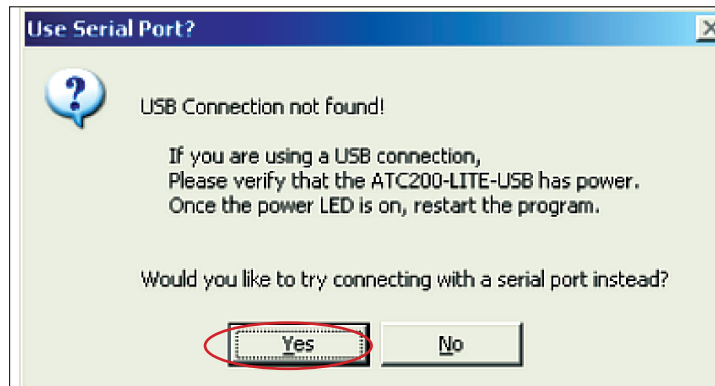

Figure 6. ATC200-LITE-USB Serial Connection.
- Start the ATCLite program. Since a USB connection is not detected, the computer will prompt you to use a serial connection. Click **Yes** to allow the computer to search for an available serial port. See Figure 6. COM1 is the default used, if it is available. If COM1 is not available, the computer will automatically search for the next available serial port in the range of 1–8.